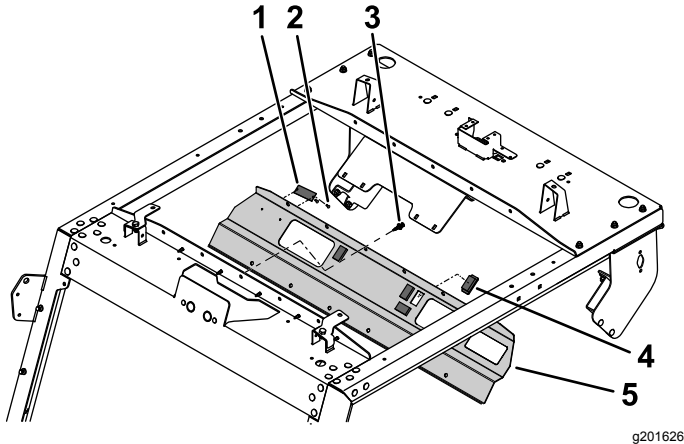

Figure 9
1. Install the 4 hole plugs to the control panel (Figure 9).
2. Use 2 pop rivets to secure the serial plate to the control panel (Figure 9).
3. Align the mounting holes on the control panel with the holes in the front roof mount (Figure 9).
4. Secure the front panel onto the front roof mount by inserting 12 plastic rivets into their respective holes and pushing the plunger on each plastic rivet until it is secure (Figure 9).